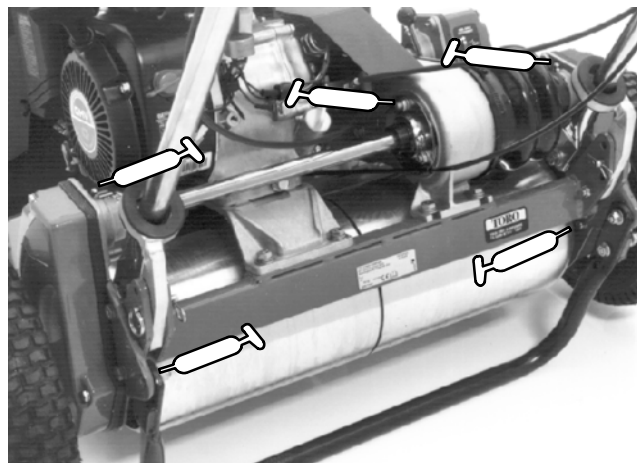

Figure 68
A. Both bearing housings for the differential axles, both flangettes for the drum shafts, and the flangette on the countershaft housing (Fig. 68).